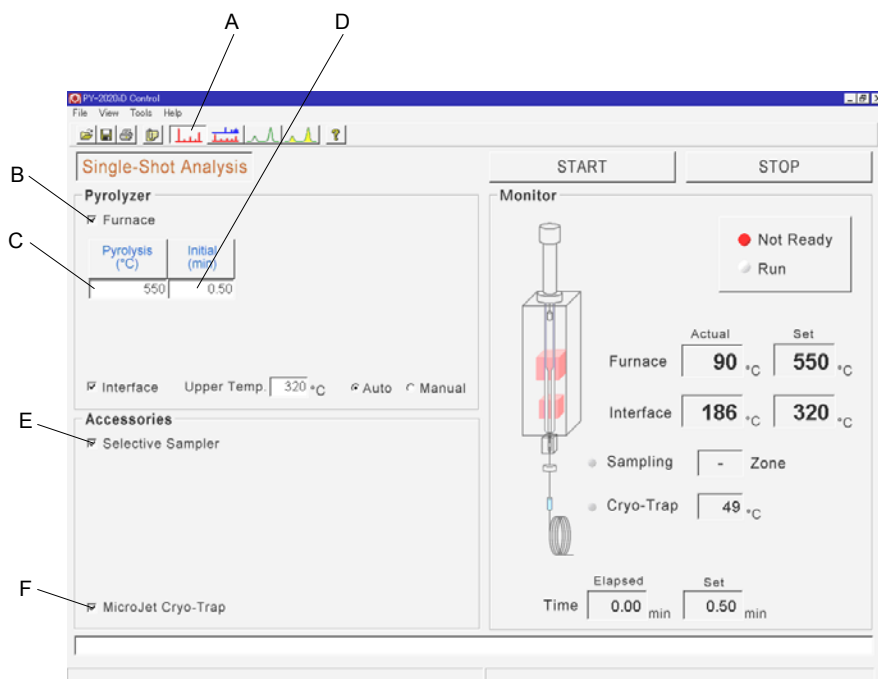

Fig. 4.7 Setting Screen of Single-Shot Analysis
Choose “Tools” > “Analytical Modes” > “Single-Shot Analysis” or click the tool bar icon of Single-Shot Analysis (A). A screen shown in Fig. 4.7 is displayed.